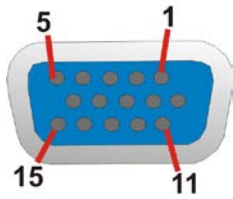

Figure 3-30: VGA Connector
- CN Pinouts:** See **Figure 3-30** and **Table 3-29**